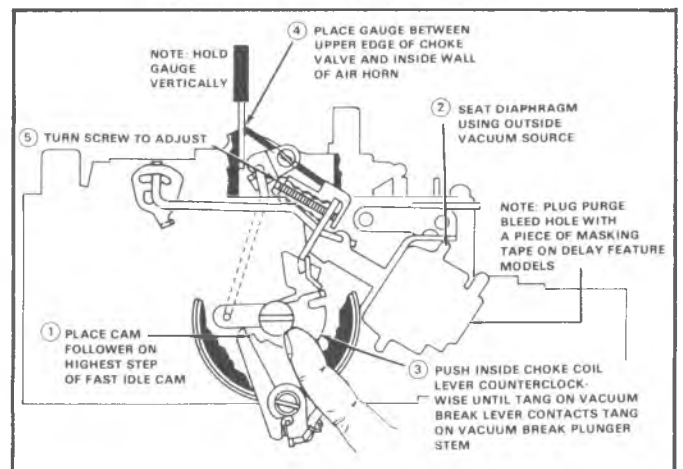

Fig. 49—Front Vacuum Break Adjustment
**FRONT VACUUM BREAK ADJUSTMENT (Fig. 49)**